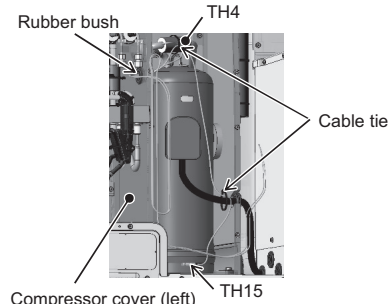

Figure 3
- (3) Cut the two cable ties holding TH4 and TH15, and remove the wiring from the rubber bush on the left compressor cover. (See Figure 3.)